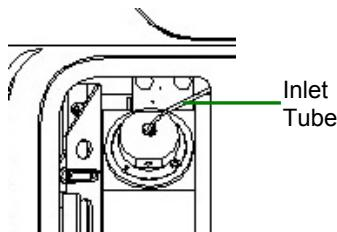

Figure 6-7: ELSD Detector
3. Disconnect the stainless steel liquid inlet line from the nebulizer using a 1/4" wrench (Figure 6-7).